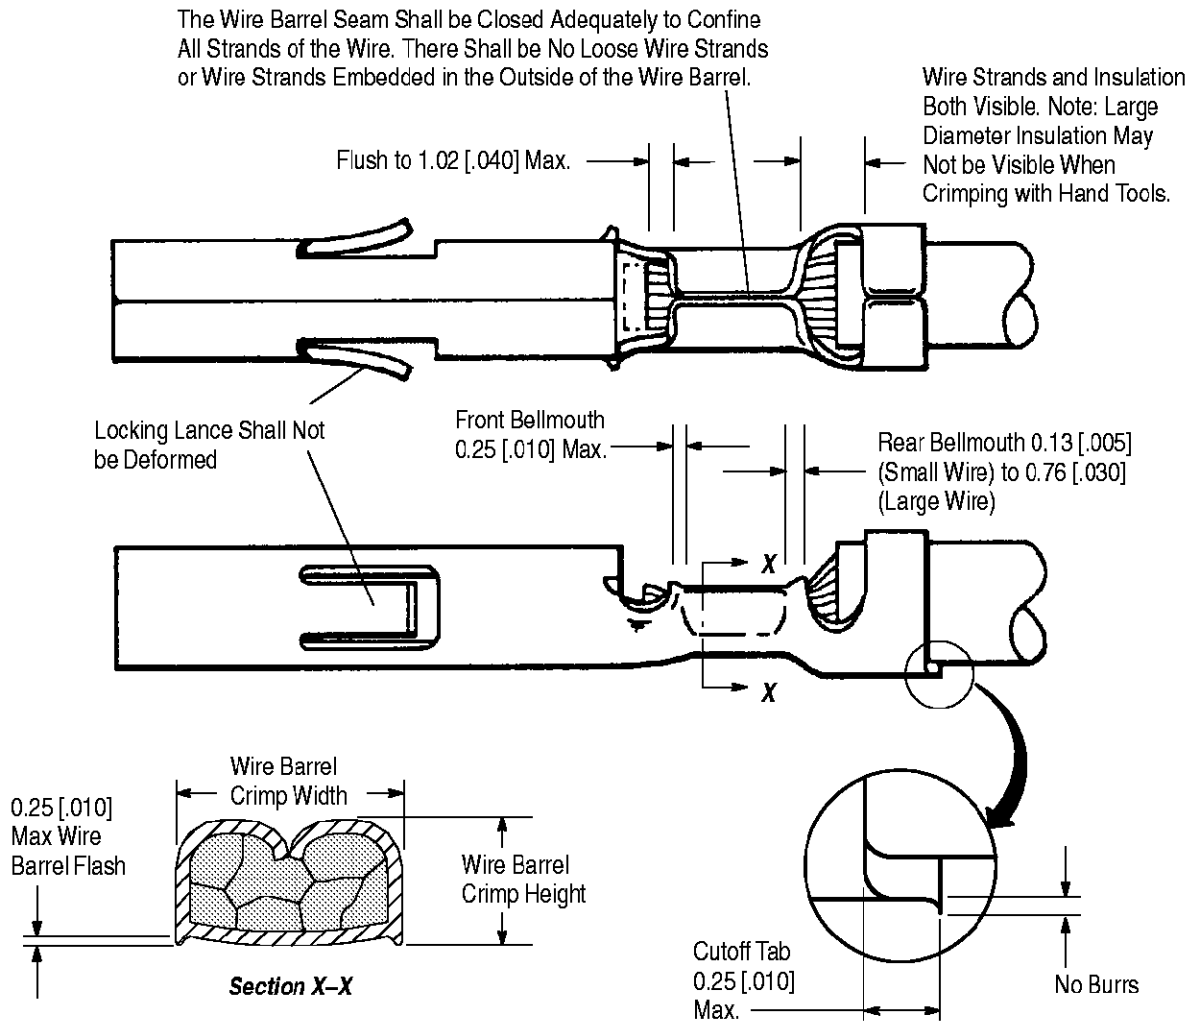

Figure 3
**NOTE** Wire stripping tool jaws may leave corrugated indentations on the surface of the wire insulation. This is especially severe with cross-linked polyethylene (high temperature) insulation. If these indentations occur at the location of the wire seal, leakage may result. Insulation surface within 8.89 mm from the tip of the contact must be smooth and free of indentations. See Figure 3.
For optimum crimp effectiveness, the crimp must be within the area shown in Figure 3 and must meet the crimp dimensions provided in Figure 2. Effective crimp length shall be defined as that portion of the wire barrel, excluding bellmouth(s), fully formed by the crimping tool. Instructions for adjusting, repairing, and inspecting tools are packaged with the tools. See Section 5, TOOLING.
Front and rear bellmouths shall be evident and conform to the dimensions given in Figure 3.
The cutoff tab shall be cut to the dimensions shown in Figure 3.
The cutoff burr shall not exceed the dimensions shown in Figure 3.
The wire barrel flash shall not exceed the dimensions shown in Figure 3, Section X-X.
The wire conductor and insulation must be visible in the transition area between the wire and insulation barrels as shown in Figure 3.
The conductor may extend beyond the wire barrel to the maximum shown in Figure 3.
The wire barrel seam must be closed with no evidence of loose wire strands visible in the seam as shown in Figure 3.